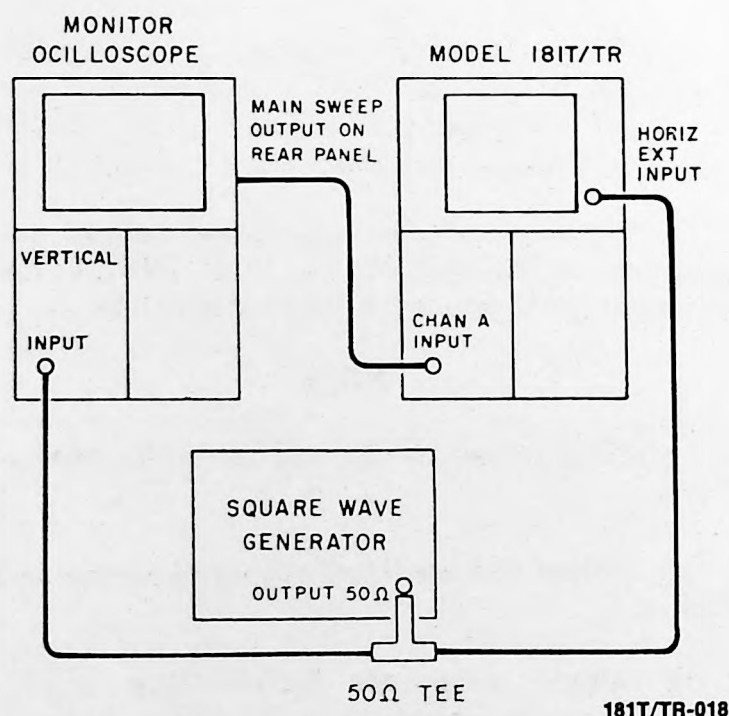

Figure 5-3. Transient Response Adj. Test Setup
- a. Use test setup (figure 5-3).
e. Connect 1 V p-p square wave at 200-kHz repetition rate from square-wave generator to HORIZONTAL EXT INPUT and to monitor oscilloscope vertical input (figure 5-3).